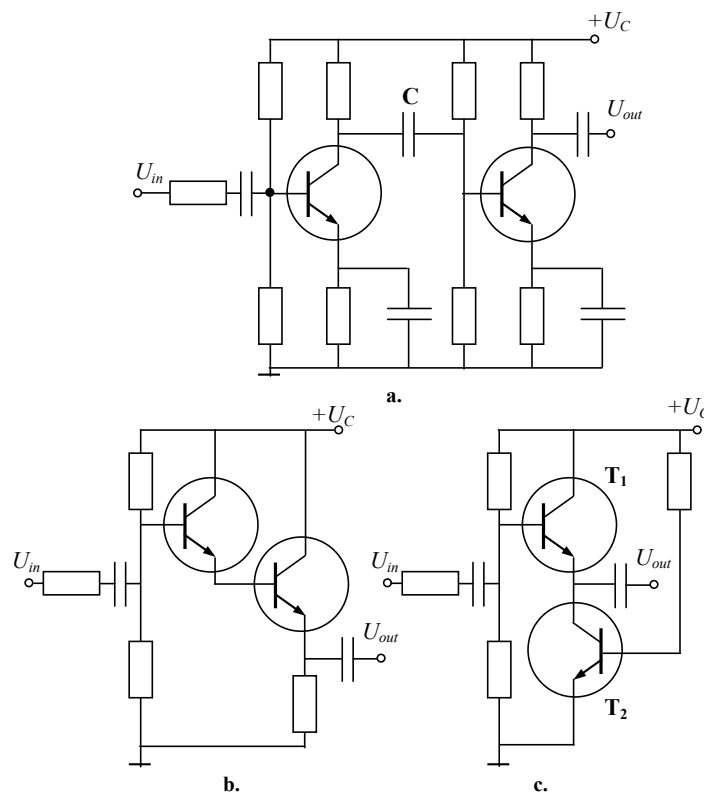

Fig. 2.14
**Two-stage ac amplifiers.** To obtain higher voltage gain of an amplifier, one can connect two stages, as shown in Fig. 2.14,a. This is called a stage *cascading* and means the amplified voltage out of the first transistor is coupled into the base of the second transistor. The second transistor then amplifies the signal, so that the final signal is much higher than the input signal. The capacitor  $C$  insulates the collector of the first transistor from the base of the second transistor.
To raise the current gain and the input resistance, the emitter follower is built by cascading of two transistors. Fig. 2.14,b shows a method of emitter follower cascading where the current is amplified twice and  $\beta = \beta_1 \beta_2$ .
**Cascode amplifier.** The circuit in Fig. 2.14,c is called a *cascode amplifier* that is an amplifier with the same dc current flowing through both devices. Here, the bottom transistor  $T_2$  having CE connection plays a role of an active load for the top CB-connected transistor  $T_1$ , therefore, the input impedance of the amplifier is raised. The common-base resistive divider defines the dc mode of operation, whereas the coupling capacitor determines the ac mode. Here,